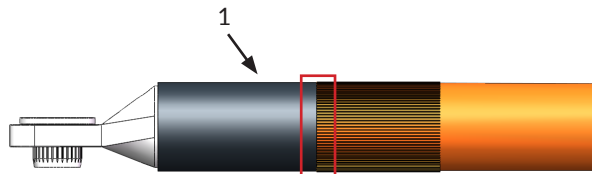

Figure 5.1
**Step 5:** Assemble the shrink tube (Figure 5.1&5.2)